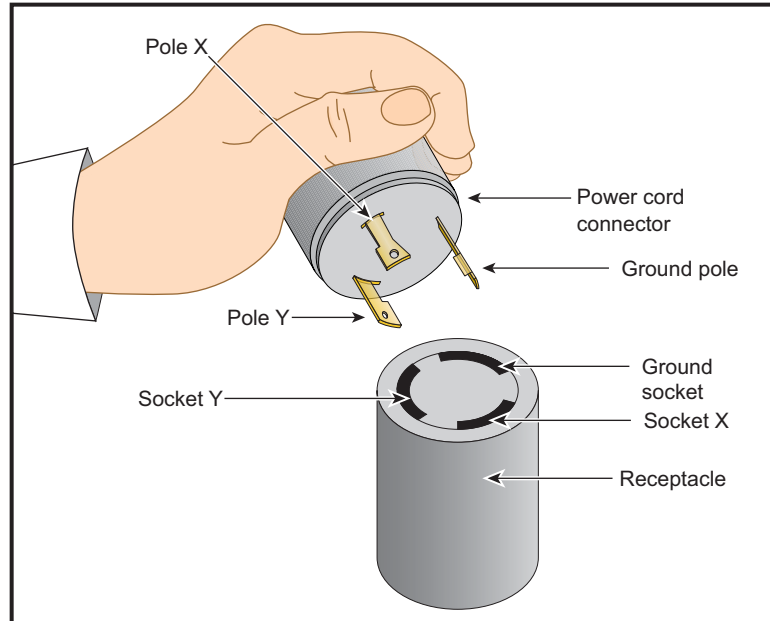

Figure 1-3 30-amp Single-phase Power Receptacle for North American Sites
2. Check the voltage between socket X and socket Y (see Figure 1-3). The meter should read between 200 and 240 VAC.